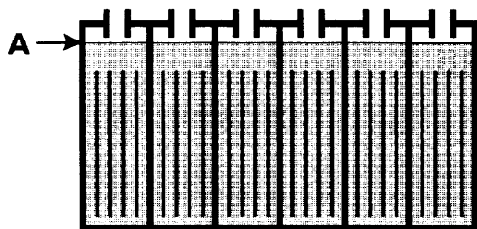

Figure 37
2. After charging, check fluid level (A). Fluid level should be within 3 mm (0.13 in) of full level indicator. Add distilled water if needed. **DO NOT OVERFILL.** Overfilled batteries will overflow during charging due to fluid expansion (Fig. 37).